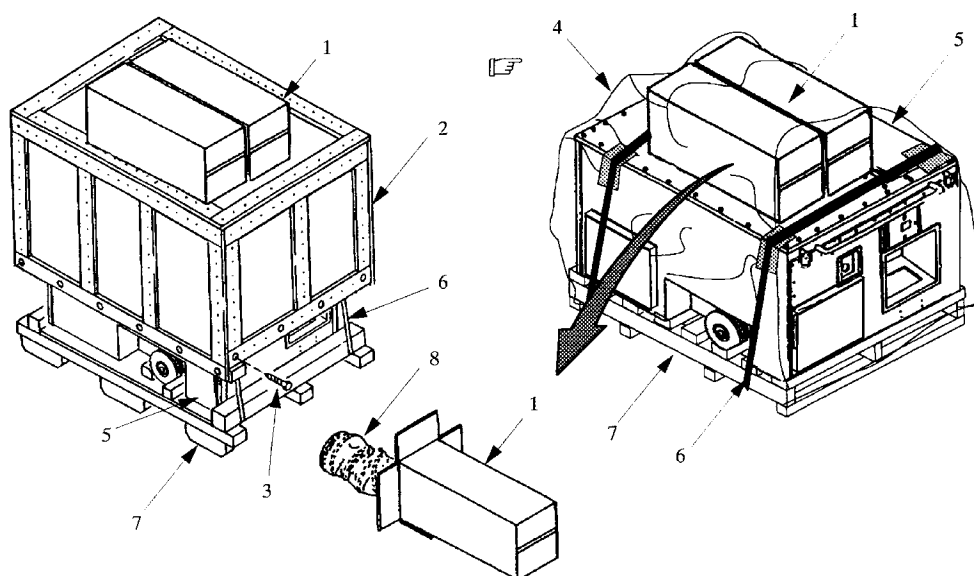

Figure 4-2. Heater Unit Packaging
- a. Unpacking Equipment, equipment may be crated in a wooden box or wrapped in stretch plastic, depending on packaging used, proceed as follows: (Refer to Figure 4-2)